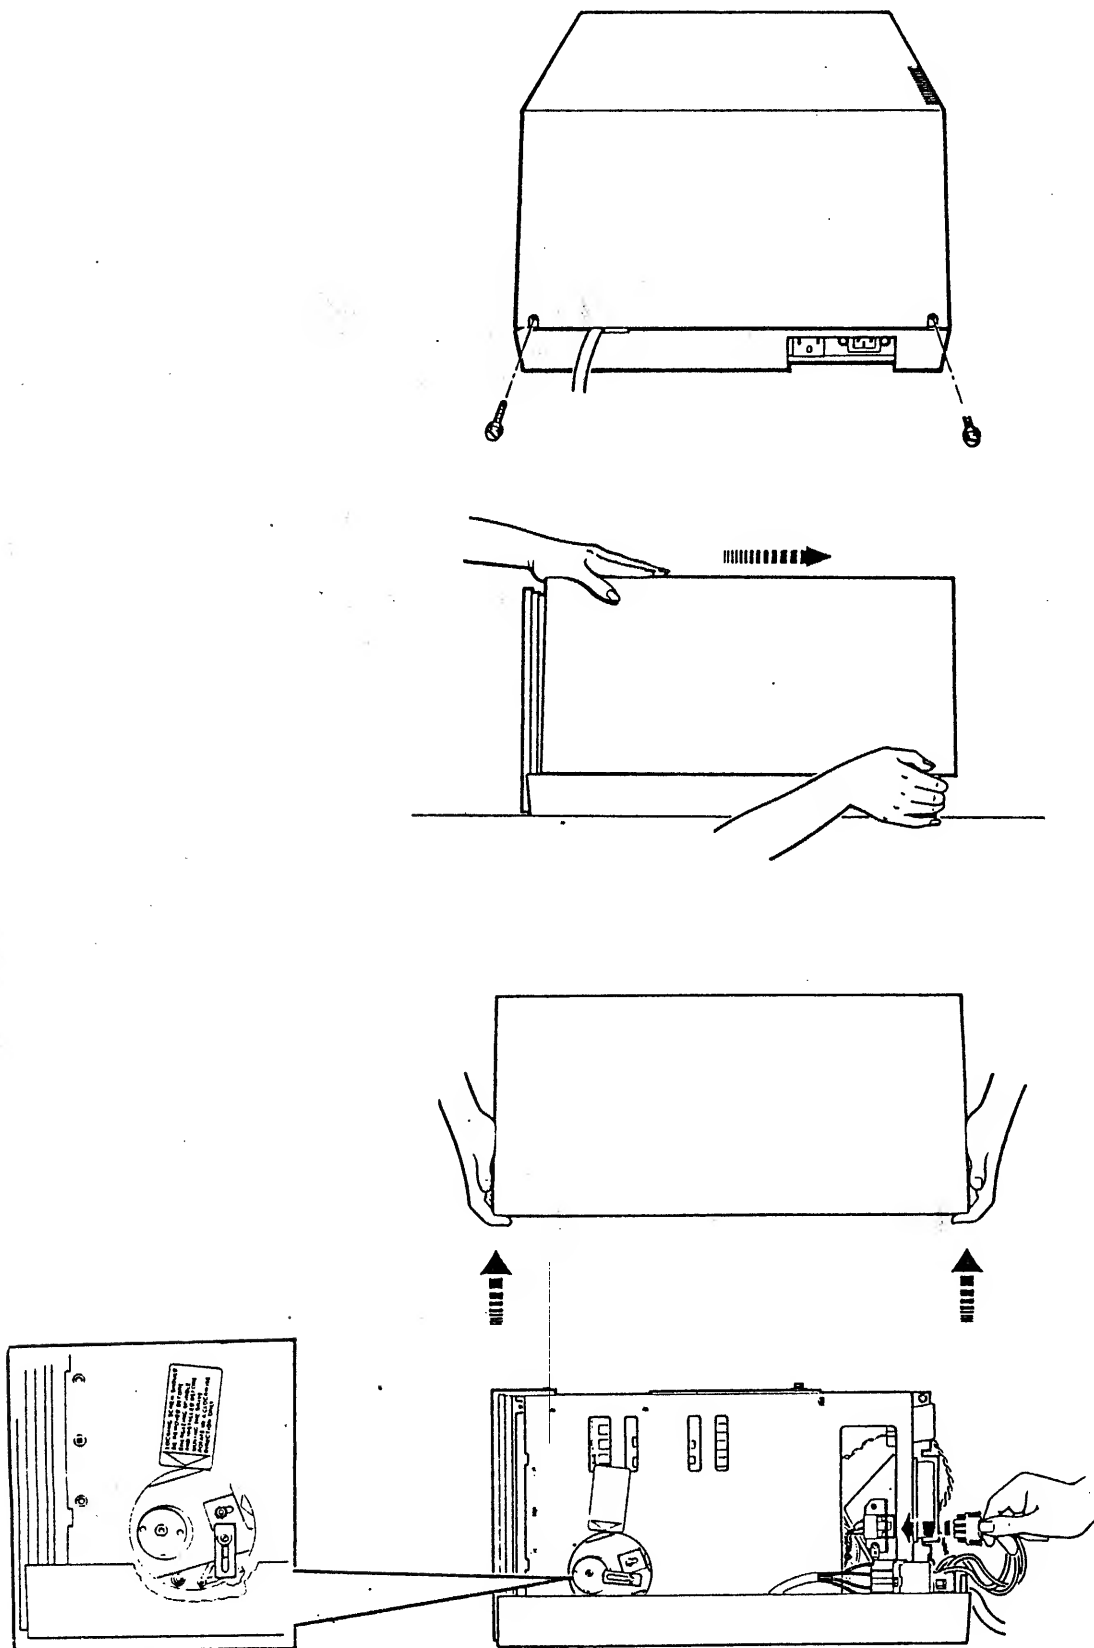

Figure 2-1 Fixed Drive Assembly (8")
1. Remove (2) screws at rear of drive assembly.
2. Slide top cover to rear, then lift cover off. (Fig. 2-1)
3. With the top cover removed the two disk drives should now be exposed. The fixed drive is the outermost with the floppy drive between it and the Power Supply. As you stand facing the left-hand side of the unit (outer case of hard disk), note the circular aperture in the hard disk's cage, exposing an aluminum spindle hub (Figure 2-1). A fingered flange is inserted into a hole in this spindle hub. The fingered flange is a shipping restraint, called a spindle lock, which MUST be removed before power is applied to unit.
5. Unscrew and remove the spindle lock. Invert it so the protruding finger faces outwards towards you, then screw it in this position (finger facing out) to the disk drive case in order not to lose it. (Fig. 2-1)
6. When you have inverted the spindle lock, walk around behind the unit again. A white translucent jack (Figure 2-1) mounted in a metal standoff will be visible from the rear of the Winchester disk drive. This is a AC cable jack. A plug which obviously mates to this jack should also be visible at the end of a cable running from the rear of the floppy disk drive. Press the plug into the Winchester drive jack, making certain they are securely mated. (Fig. 2-1)
9. Replace the top cover. Do the reverse of removing the top cover, (Fig. 2-1). The long interlock screw should be placed in the left hand hole of the top cover when viewed from the rear.